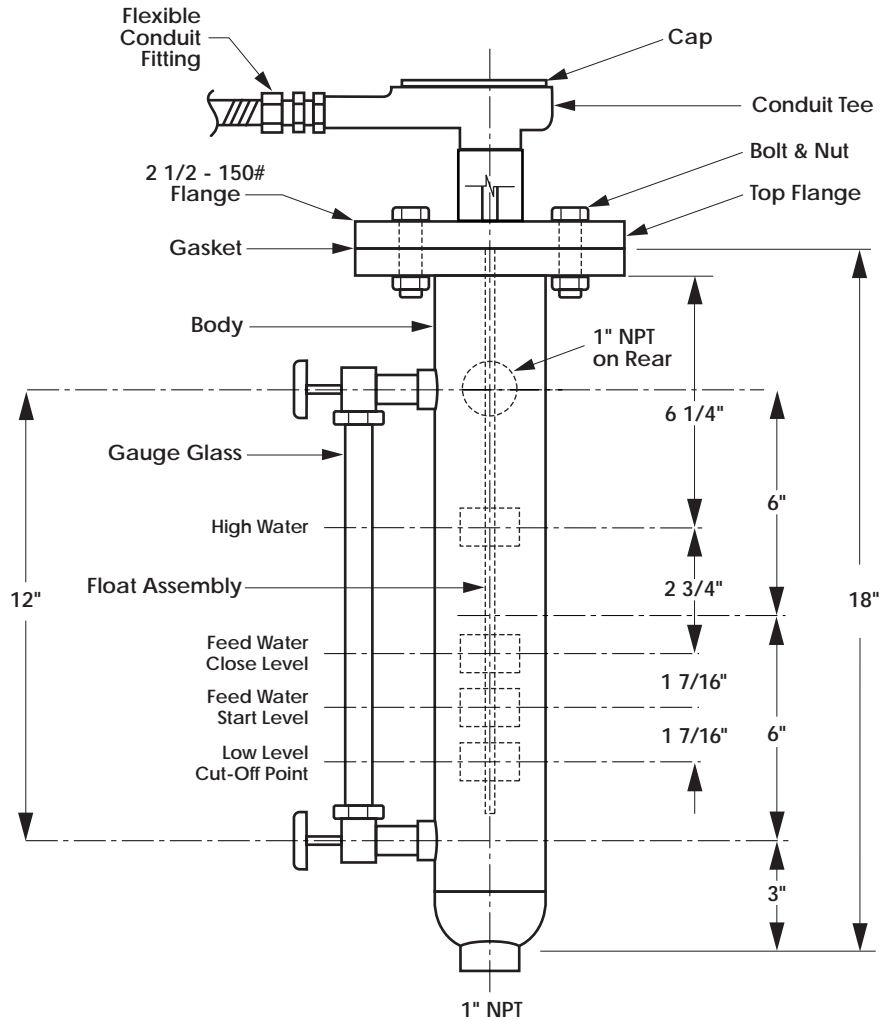

Figure B-1: CEMLINE CORPORATION Stainless Steel Level Controller Schematic
3. Remove the four (4) bolts and nuts securing the top flange to the body of the unit (see Figure B-1).